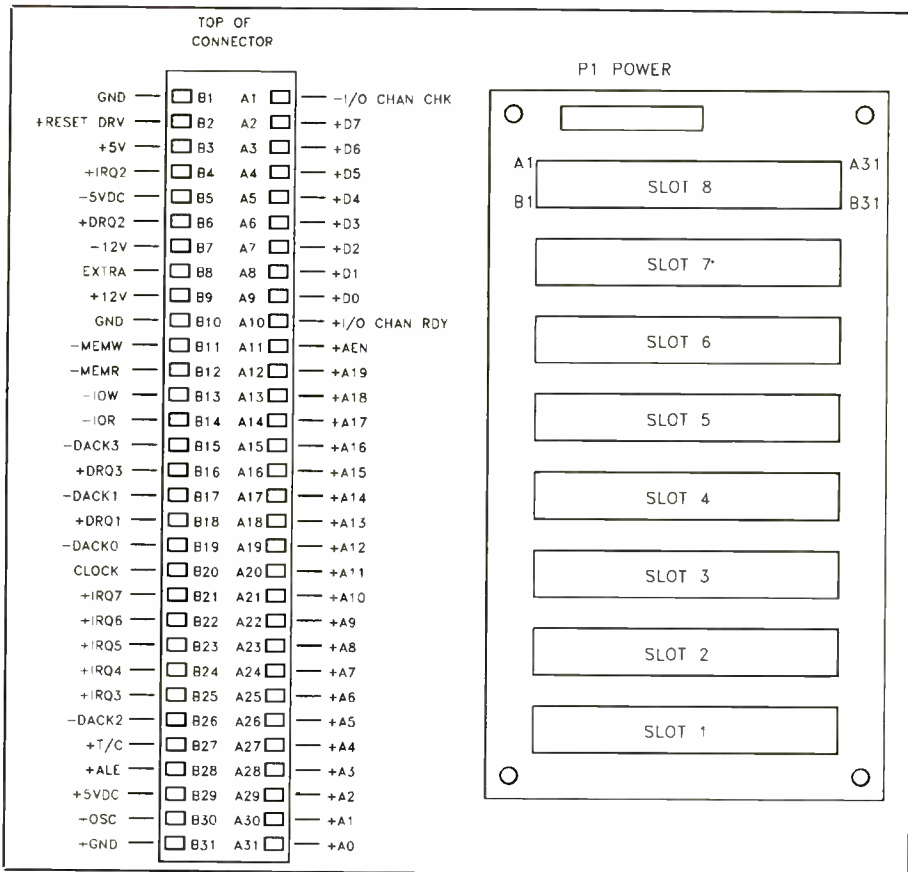
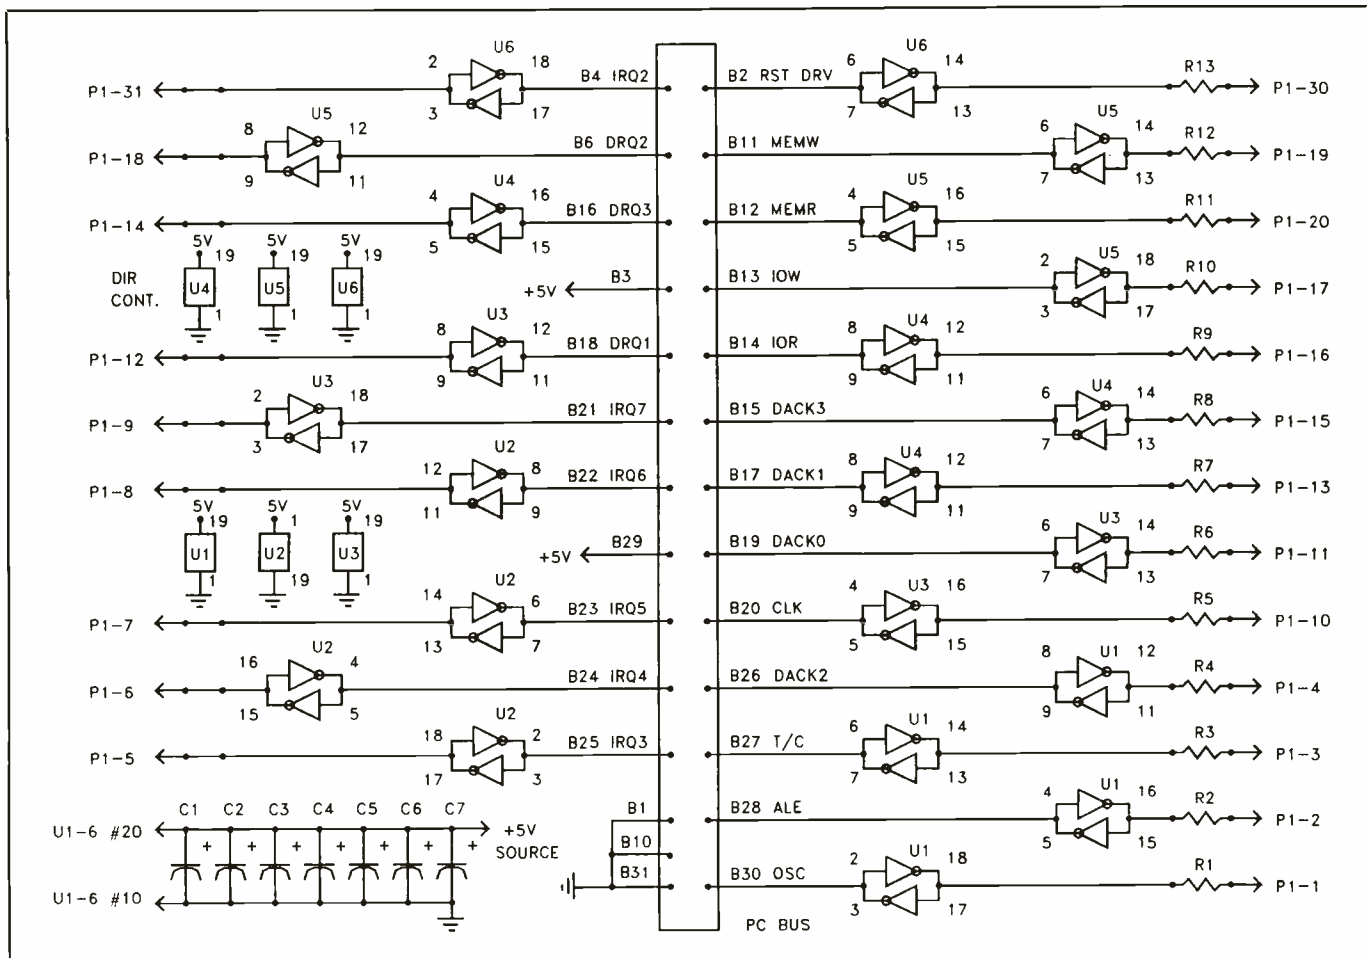

Fig. 1. Pinout assignments for IBM PC/compatible (left) and CYANCE Bus Expander (right) buses.
Fig. 3. Schematic details of Master Control Card circuitry.
The pinout of the CYANCE Bus shown in Fig. 1 is the same as that for the PC bus (left). Take some time to examine the layout of the CYANCE Bus Card (right) with regard to the various card slots and power connector to familiarize yourself with the system and know your way around.
• **Control Cards.** The PC Bus connector, shown in the center of the Master Control Card circuit in Fig. 3, uses a 62-contact edge connector with 31 each "A" and "B" contacts in the Fig. 1 pinout arrangement. The control cards use only the "B" side that routes most of the bus signals.
In the Fig. 3 Master Control Card circuitry, the buffers located on the right send PC bus signals to the CYANCE Bus. Similarly, the buffers on the left condition signals received from the CYANCE Bus and apply them to the PC bus.
Trace these signals using Fig. 1 through Fig. 4 until you completely understand the data flow. This will be important when you build and test your Bus Expander.
In studying Fig. 3 and Fig. 4, several "damping" resistors in series with the buffer output lines reduce the effects of under-shot signals. On the conditioning (receiving) side, these resistors are replaced with jumper wires. Hence, the difference between the Master and Slave Control Cards is determined by whether each has resistors or jumpers installed in the corresponding positions.